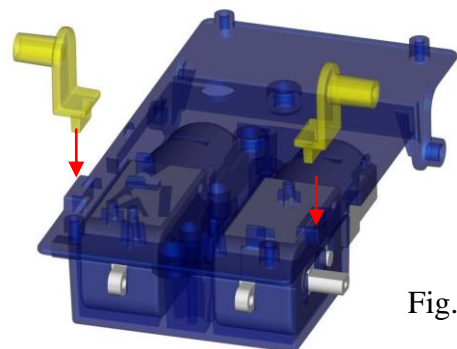

Fig. 2
1. Insert the chassis part to the small slot on both sides of the chassis (1). (Fig. 2)